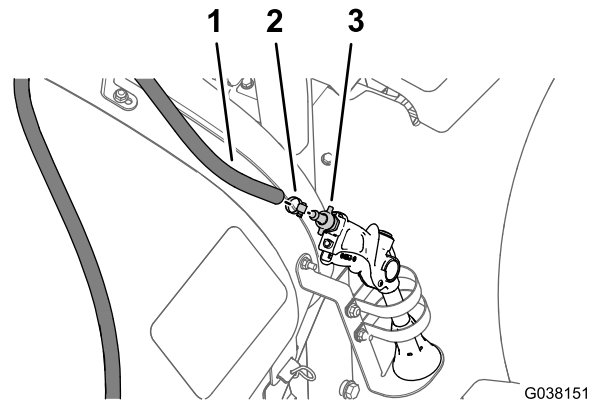

Figure 13
1. Remove the hose clamp that secures the supply hose to the barbed fitting of the spray gun (Figure 13).
2. Remove the supply hose from the barbed fitting (Figure 13)